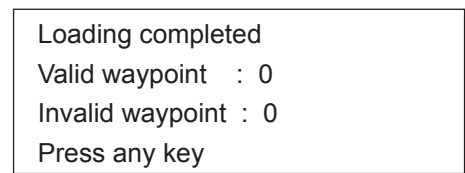

Figure 8-20
- 7) When the data is loaded, press **CU/NU ENT** and **MENU ESC**. The message shown in Figure 8-20 appears.